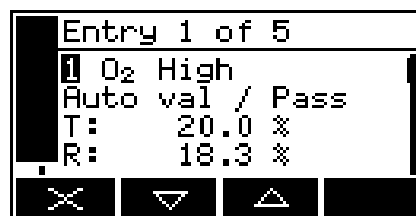

Figure 83 – The validation/calibration history screen (initial view)
2. This screen shows the target value (T) and the actual measurement reading (R) before val/cal was carried out.
- "Calibration <x>/<y>" (as in Figure 83 above), where <x> is the number of the displayed calibration point and <y> is the total number of calibration points stored.